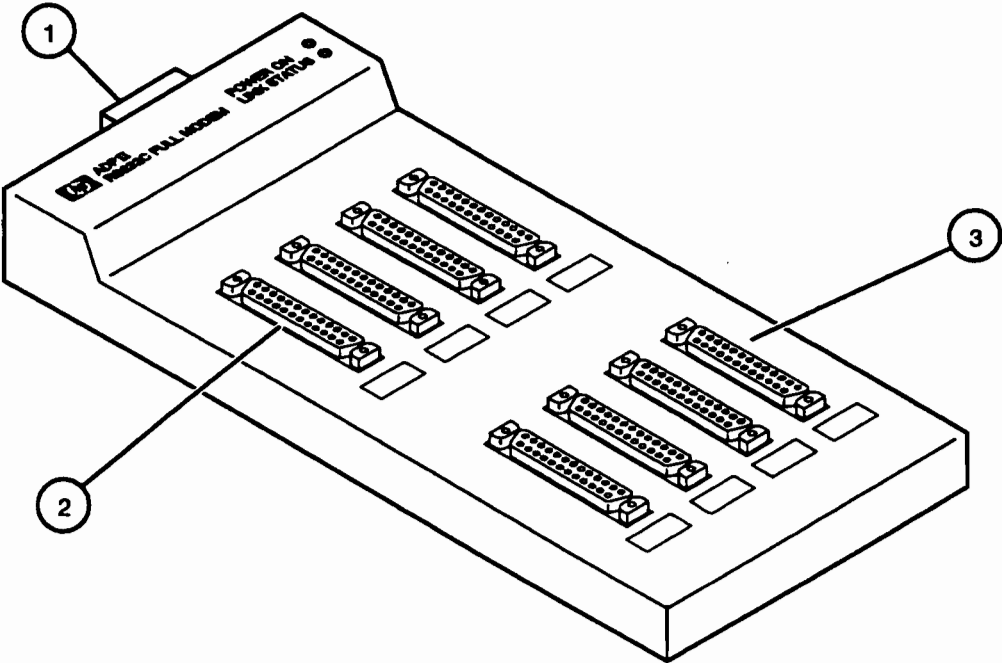

Figure 3-7. Active Distribution Panel
4. If you have an HP 9000 817S, 827S, 837S, 847S, 857S, 867S or 877S, connect the other end of the console terminal data cable to connector 0 of the active distribution panel. Figure 3-7, number 2 shows the active distribution panel.